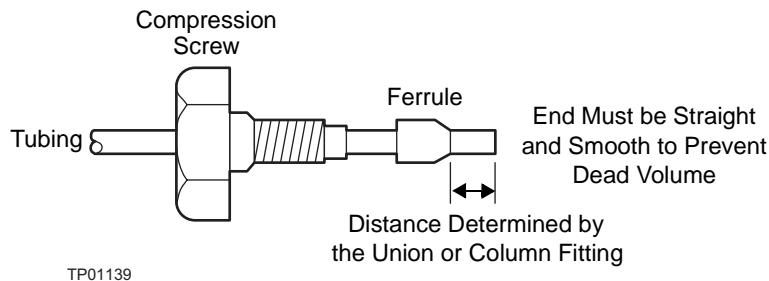

Figure 1-7 Compression Screw Assembly
3. Assemble a compression fitting (Figure 1-7) at both ends of the column outlet line and at one end of the detector outlet line.